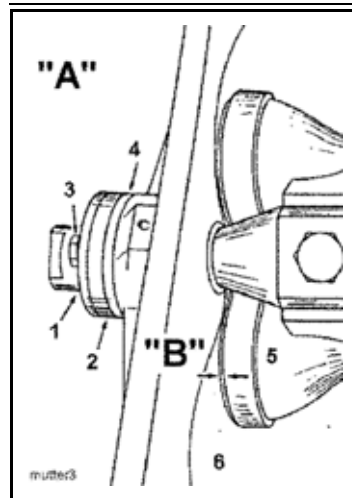
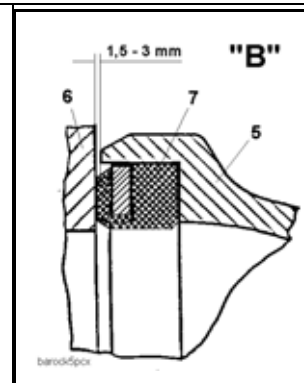

Fig. 309
Fig. 310
A	See detailed view (Fig. 309)
B	See detailed view (Fig. 310)
No air gap may be visible between the bearing bushing (4), the locking wheel (2) and the adjusting nut (1) (Fig. 309), even during operation.
There must be a measurable distance of distance of 1.5 to 3.0 mm between the swivel head (rock) (5) and housing lining (6) while the kidney seal (7) is in contact with the housing lining (6) (Fig. 310).
Caption for (Fig. 309) and (Fig. 310)
- Remove safety screw (3) (Fig. 309) together with disc.
- Set distance "B" = 1.5 to 3.0 mm using the adjusting nut (1).
- Align the bore in the collar of the adjusting nut with the nearest threaded bore in the locking disc (2) (rotate the nut forward or backward).
- Attach safety screw (3) with disc.